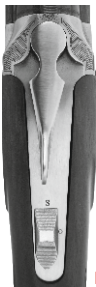
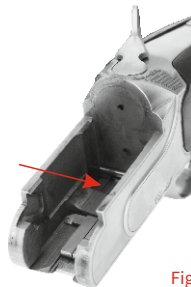

Fig.5a
Fig.5b
4. When the barrels are closed properly against the receiver, the Top Lever will return toward the center of the action (Fig.5a).
The Top Lever controls the locking of the breech of the barrels to the receiver. To open the gun, move the Top Lever to its extreme right hand position and ease down the barrels. The Top Lever will remain in the "OPEN" position until the barrels are again closed and locked. The Top Lever will then automatically return toward the center position (Fig.5a). With the barrel removed from the receiver the Top Lever can be returned to the center position by depressing the Top Lever Latch (Fig.5b). When the barrel is removed from the receiver, the Top Lever should always be returned to the center position to prevent damage and especially during transportation.